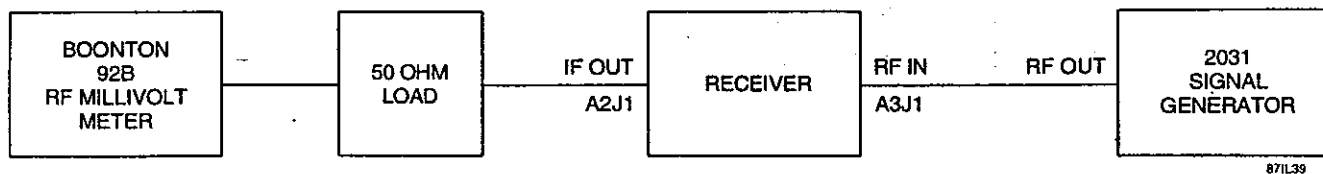

Figure 7-8. Reconstructed IF Output Performance Test Equipment Connection
1. Connect the WJ-8712P Receiver and test equipment as illustrated in Figure 7-8.